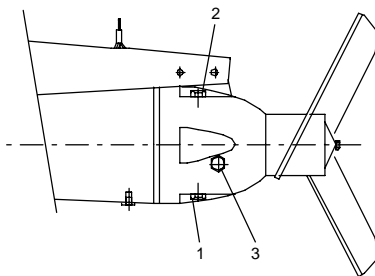

Fig. 23
2. Slacken and remove the screw (pos. 2), see fig. 23.
3. Slacken and remove the oil drain screw (pos. 1) and allow the oil to drain from the chamber.